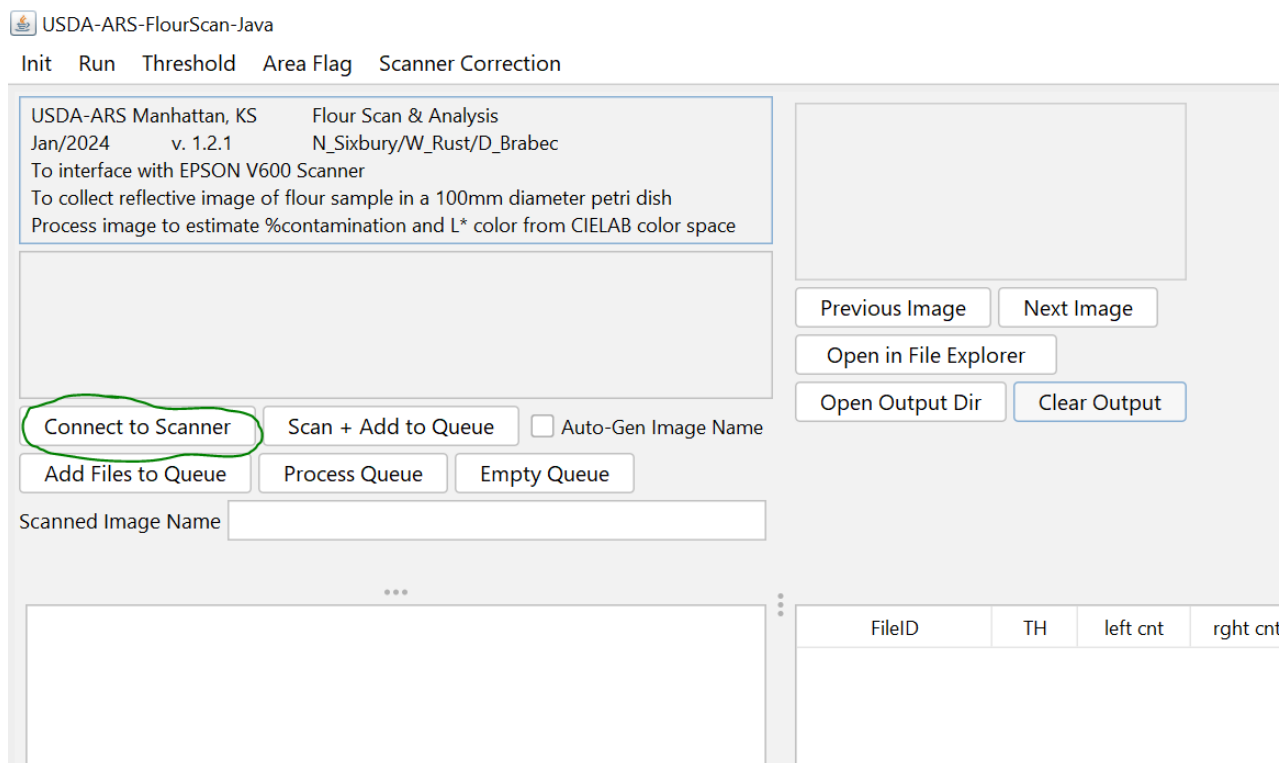

Figure 2
- 2) Ensure that the EPSON v600 scanner is turned on, and then click “Connect to Scanner” in the program. [See Figure 2]